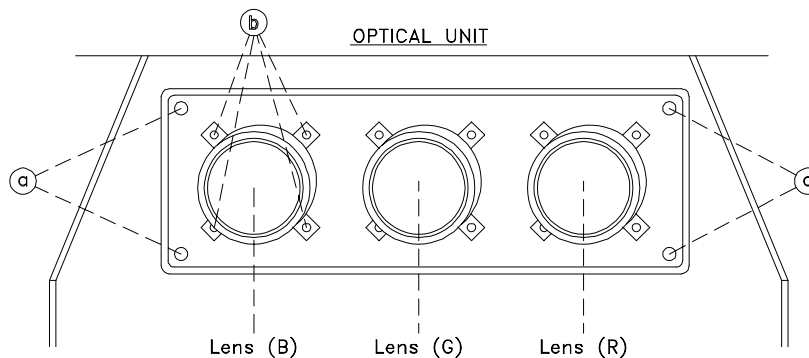

Figure 5-1
5. Remove 4 hex-screws "a" retaining the Optical Unit. [Figure 5-1]
3. Install the Lens that was removed in steps 5 and 6 of Removal Of The CRT. [Figures 5-1 and 5-2]
- b) Install the mounting screws. [Figure 5-1]